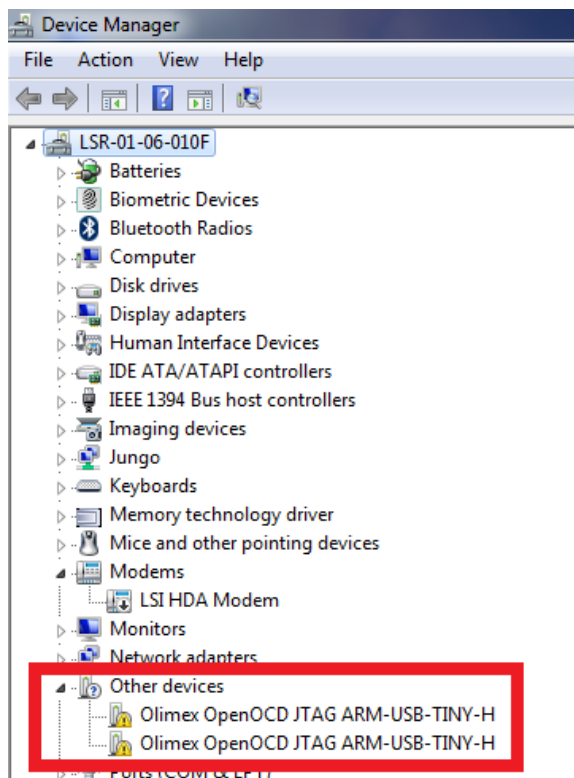

Figure 10 - Olimex Drivers Not Installed
3. Figure 10 shows drivers that are not installed.
- If the drivers are not installed correctly, click one of the objects in the red box as shown in Figure 10, and click “Update Driver Software”.